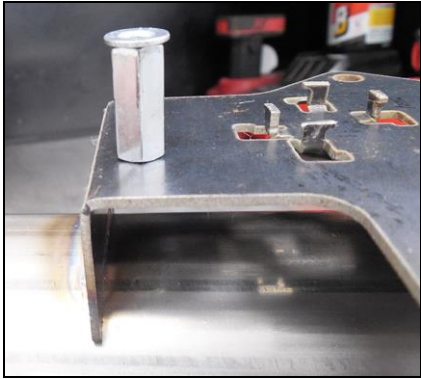

Figure 3
6. Place a washer on to the top of the coupling nut installed on the mounting plate (**Figure 3**).